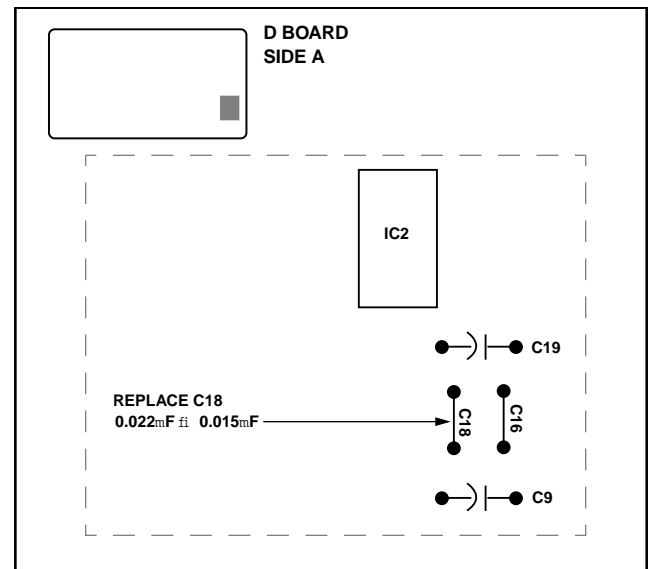

Figure 1
**D Board, Side A (See Figure 1.)**